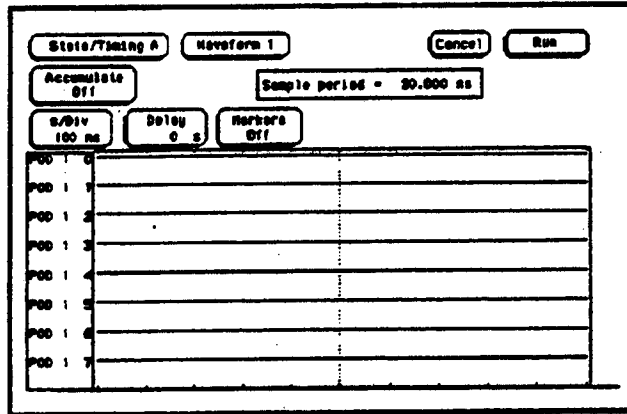

Figure 3-42. Waveform Screen
6. Touch Run, then drag finger to Single. Data displayed on Waveform screen should be high for the pod under test. See figure 3-42.
11. Touch Run. Data displayed on the Waveform screen should be all high for the pod under test as in previous figure 3-42.
16. Touch Run. Data displayed in the Waveform screen should be all high for pod under test as in figure 3-42.